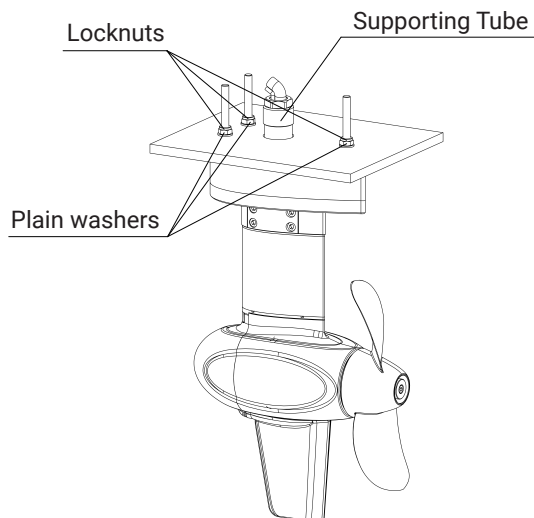

Figure 3-4
Step 2: Hold the pod motor and insert its three bolts (Pod Drive 1.0 & 3.0 are M8, Pod Drive 6.0 Evo is M10) and supporting tube into the holes from below the hull bottom. Then lock the each bolt from inside the boat by a plain washer and a nut (Figure 3-4).